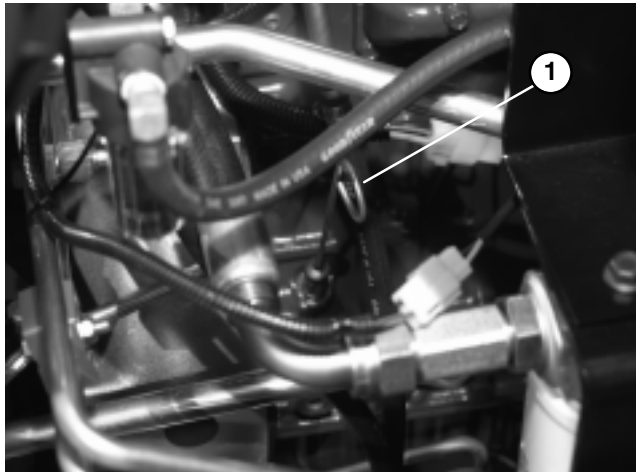

Figure 12
2. Remove dipstick (Fig. 12), wipe clean and reinstall dipstick. Pull it out again and check oil level on dipstick: Oil level should be up to FULL mark on dipstick.